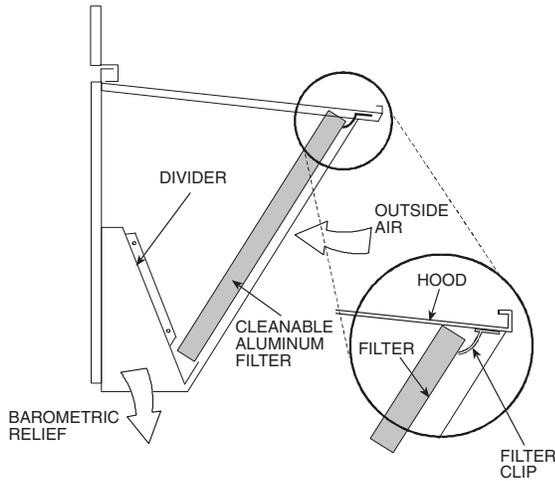

Fig. 12 — Economizer Filter Installation
5. Open the filter clips which are located underneath the hood top. Insert the aluminum filter into the bottom filter rack (hood divider). Push the filter into position past the open filter clips. Close the filter clips to lock the filter into place. See Fig. 12.